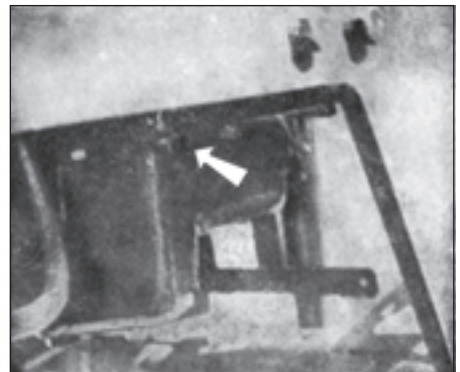

Fig. 164
24. Check the oil level in the gearbox of the front P.T.O.-shaft; inspection hole (Fig. 164).